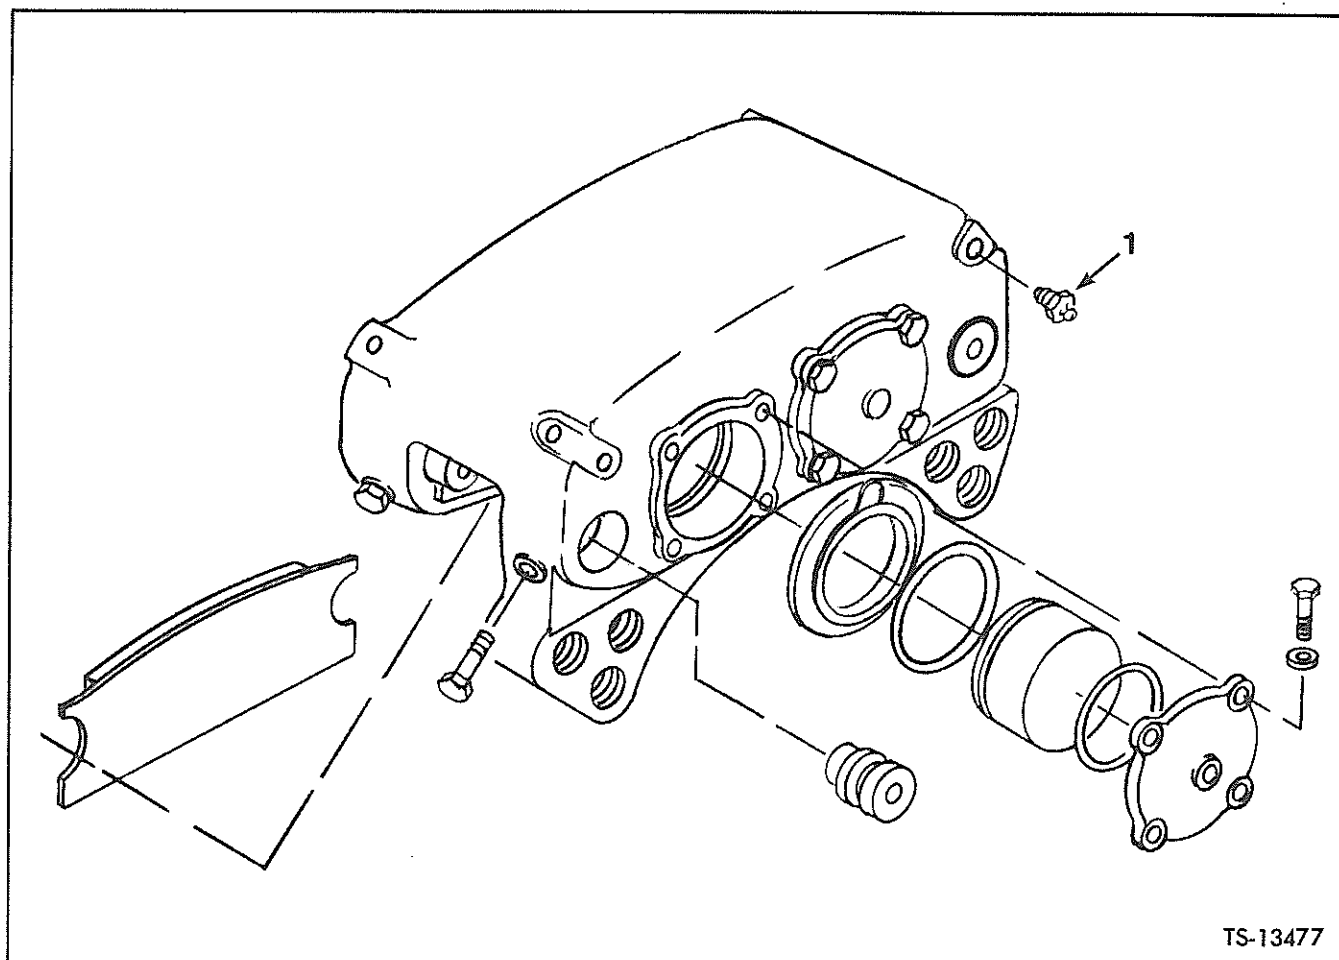

Fig. 17. Disc Brake Head (Exploded View)
1. Open bleeder valve, (See Item 1 Figure 17), and actuate brakes several times until fluid coming from bleeder valve is free of bubbles. Depress brake pedal and close bleeder valve, then release brake pedal.